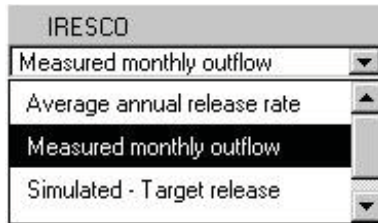

Figure 11.11
- ii. **Monthly Reservoir Outflow data.** If **Measured monthly outflow** is selected from the **IRESKO** drop-down list (Figure 11.11), the user is required to create a data table containing the monthly outflow